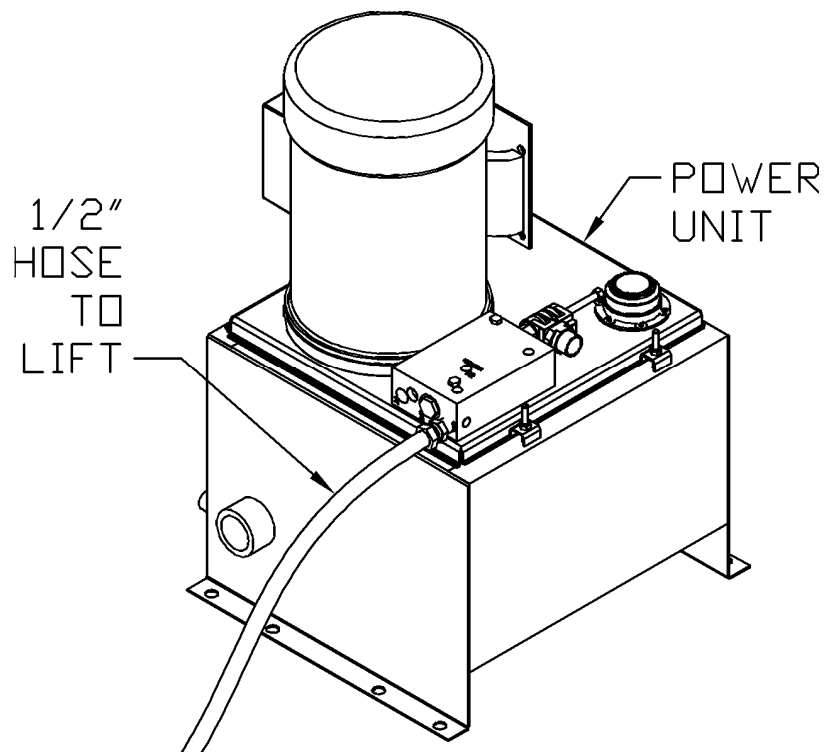

Figure 14 Standard Power Unit – 5HP/230VAC/1ph
B. REMOTE POWER UNIT INSTALLATION (Reference Figure 14)